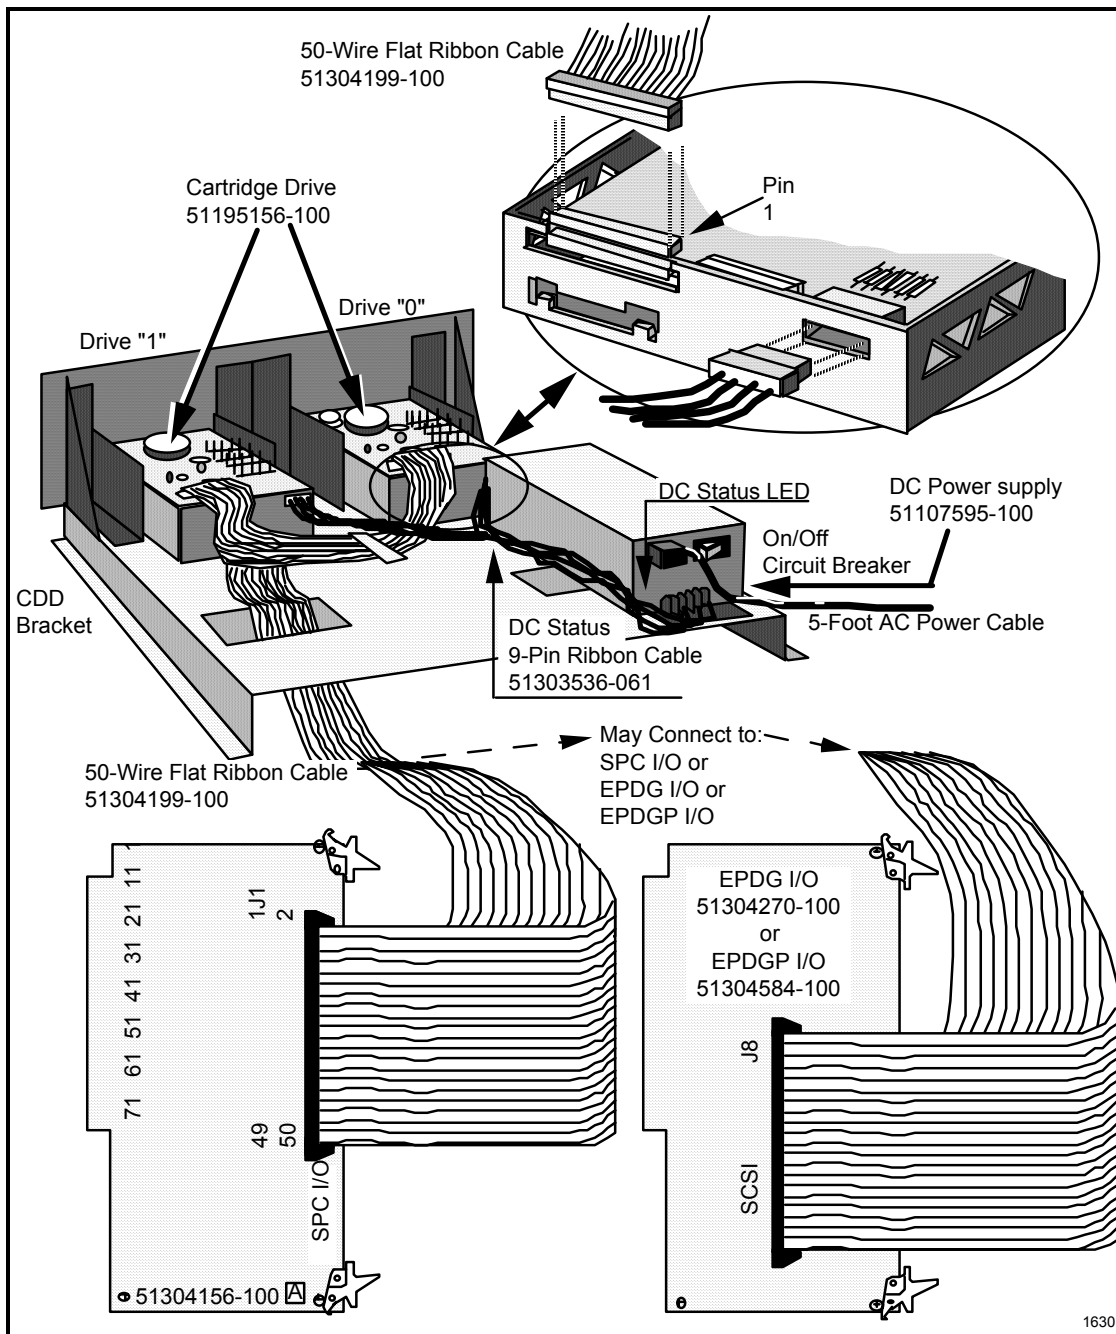

Figure 12-1 — CDD Interface Connections
2. Set the CDD power supply switch to "0" (OFF), see Figure 12-1. If there is no CDD power supply, the power comes from the Five-Slot Module Power Supply. In this case turn off the power supply in the Five-Slot Module—**be aware of the fact that this will shut down the US node.**